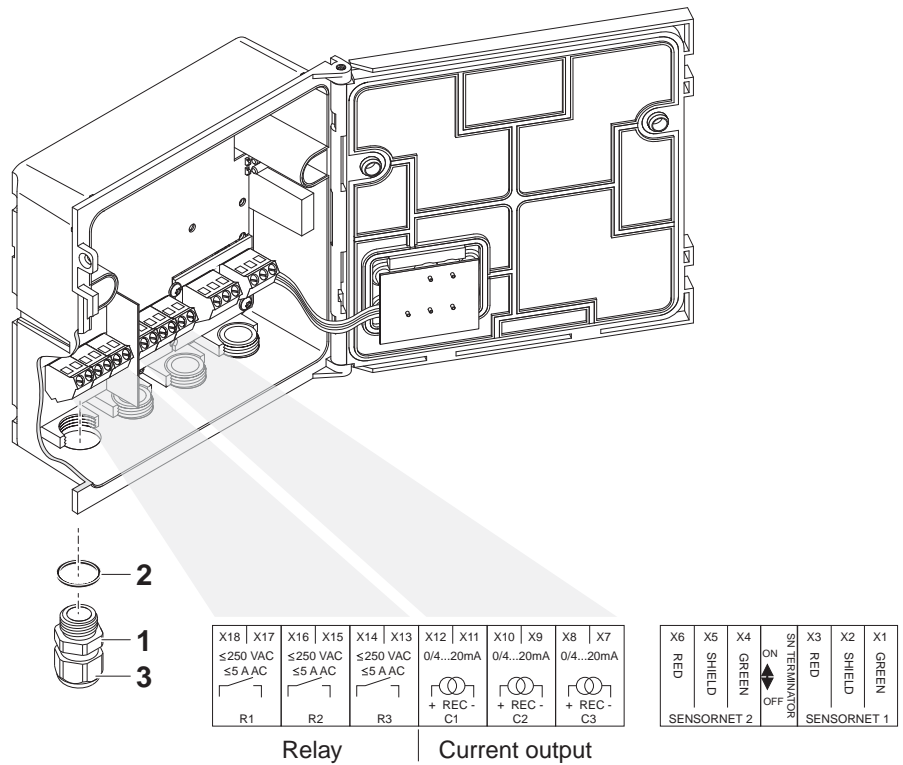

Fig. 3-1 Terminal strip with the relay and current connections
- 2 Screw the cable gland (pos. 1 in Fig. 3-1) with the sealing ring (pos. 2) into the module housing.
- 3 Loosen the coupling ring (pos. 3 in Fig. 3-1).
- 6 Tighten the coupling ring (pos. 3 in Fig. 3-1).